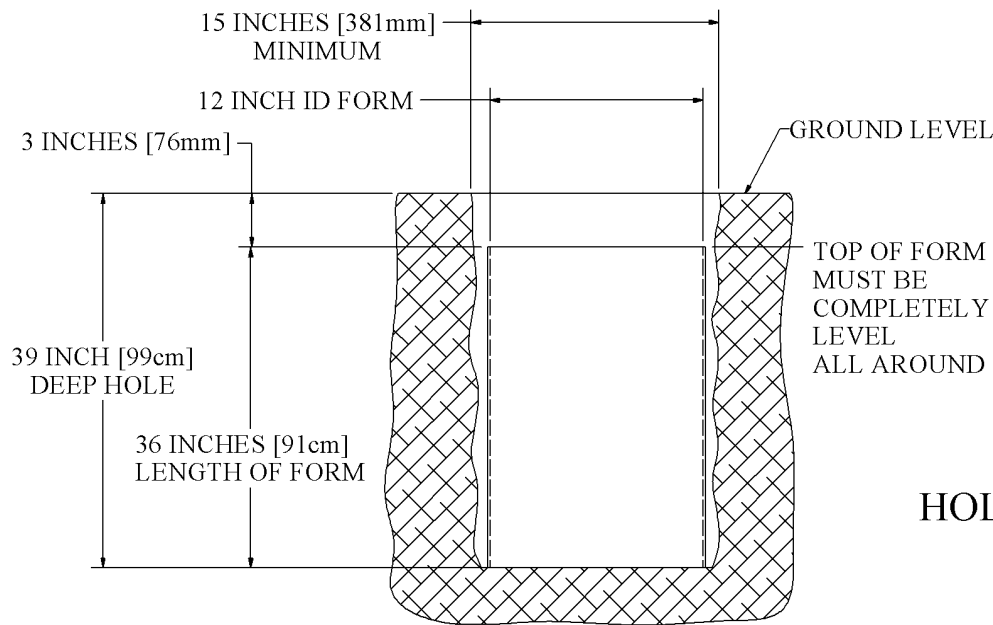

FIGURE 1
2. Refer to Figure 1:
IMPORTANT: Ensure the form is completely level all the way around. (Refer to Figure 1).